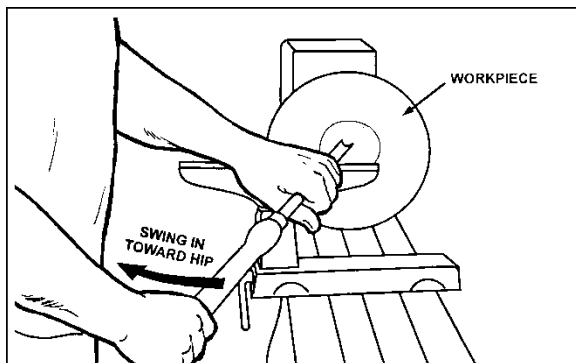

Figure 23
5. Place the 1/2" bowl gouge on the tool rest at the center of the workpiece with the flute facing the top of the bowl. The tool handle should be level and pointed toward four o'clock, see Figure 23.
6. Use left hand to control the cutting edge of the gouge, while the right hand swings the tool handle around toward your body, see Figure 23. The flute should start out facing the top of the workpiece, and rotate upward as it moves deeper into the bowl to maintain a clean even curve. As the tool goes deeper into the bowl, progressively work out toward the rim. It may be necessary to turn the tool rest into the workpiece as you get deeper into the bowl. **Note:** Try to make one, very light continuous movement from the rim to the bottom of the bowl to ensure a clean, sweeping curve through the workpiece. Should there be a few small ridges left, a light cut with a large domed scraper can even out the surface.